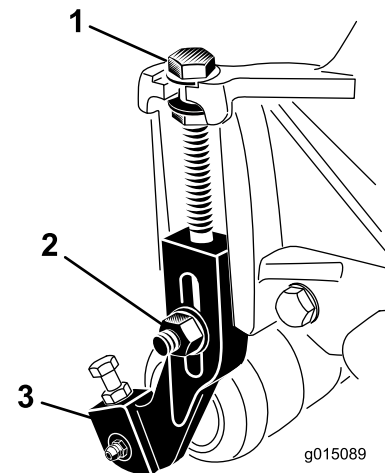

Figure 17
1. Loosen the locknuts securing the height-of-cut brackets to the cutting-unit side plates (Figure 17).